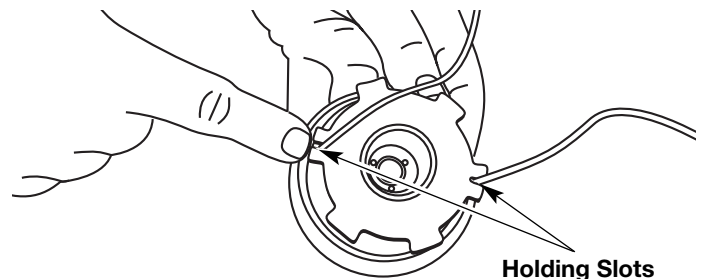

Fig. 30
- Insert the ends of the line into the two holding slots (Fig. 30).